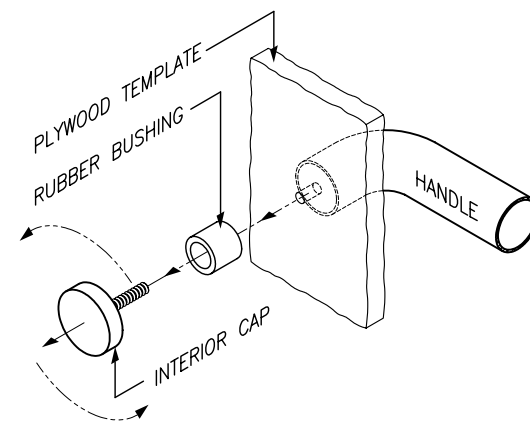

FIGURE 6
6. UNSCREW INTERIOR CAP FROM EXTERIOR FIXED PULL HANDLE. REMOVE RUBBER BUSHING (FIGURE 6) (REUSE BUSHING ON GLASS).